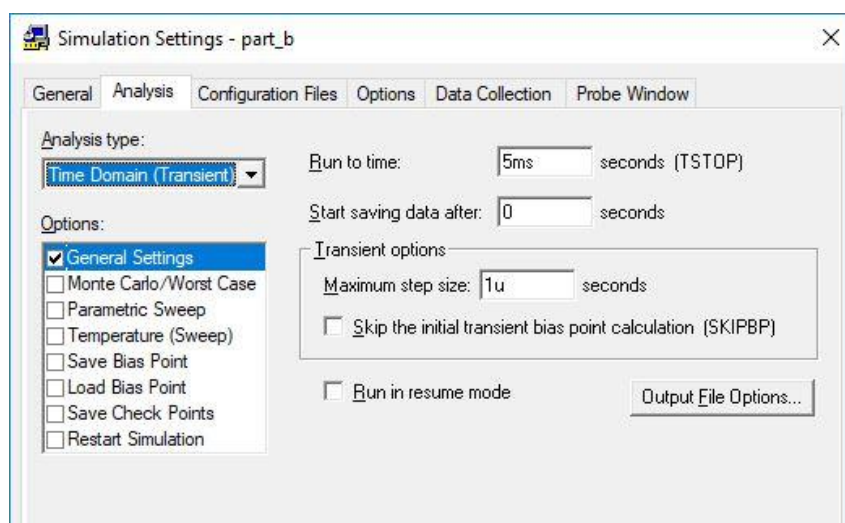
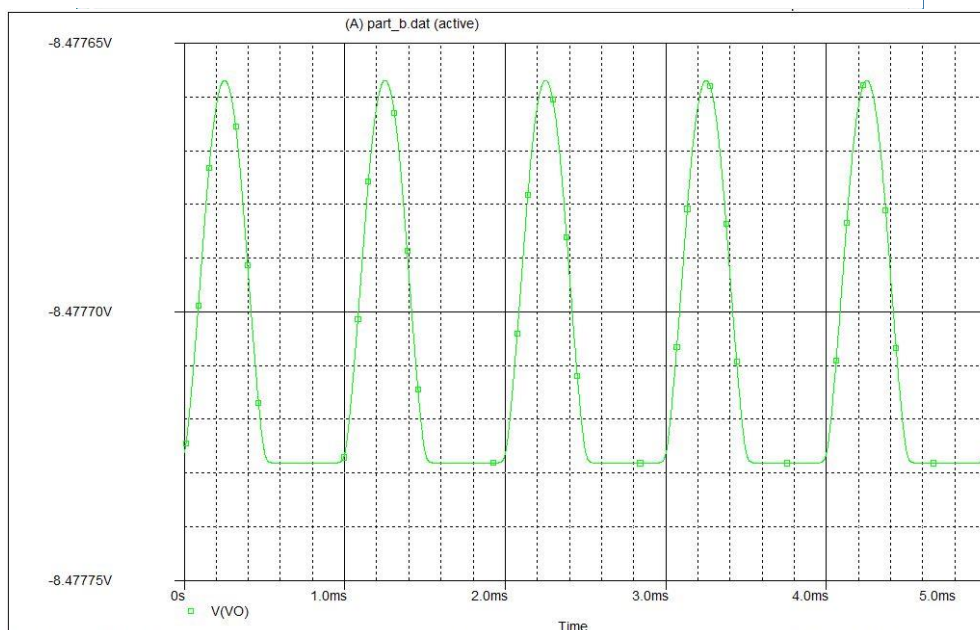

Figure 10: The setting of the analysis
Figure 11: The result outputs
3. In this section, determination of the output when V_{in} is a 1.5V peak-to-peak sine wave at 1 kHz is asked. To this analysis, the time domain analysis type should be taken. The setting of the analysis is given by Figure 10. The result of the analysis is given by Figure 11.